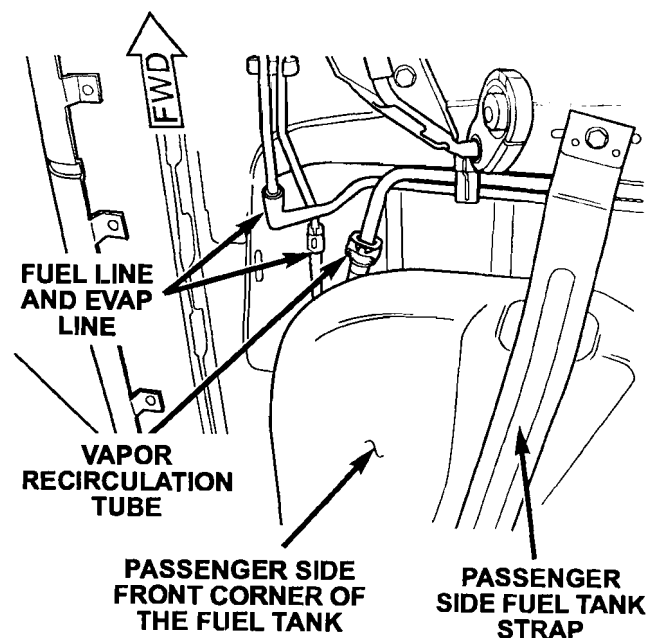

Figure 4
- i. Disconnect the fuel line, EVAP line, and vapor recirculation tube located at the right front corner of the fuel tank (Figure 4).
28. Connect the fuel line, EVAP line and vapor recirculation tube located at the right front corner of the fuel tank (Figure 4).